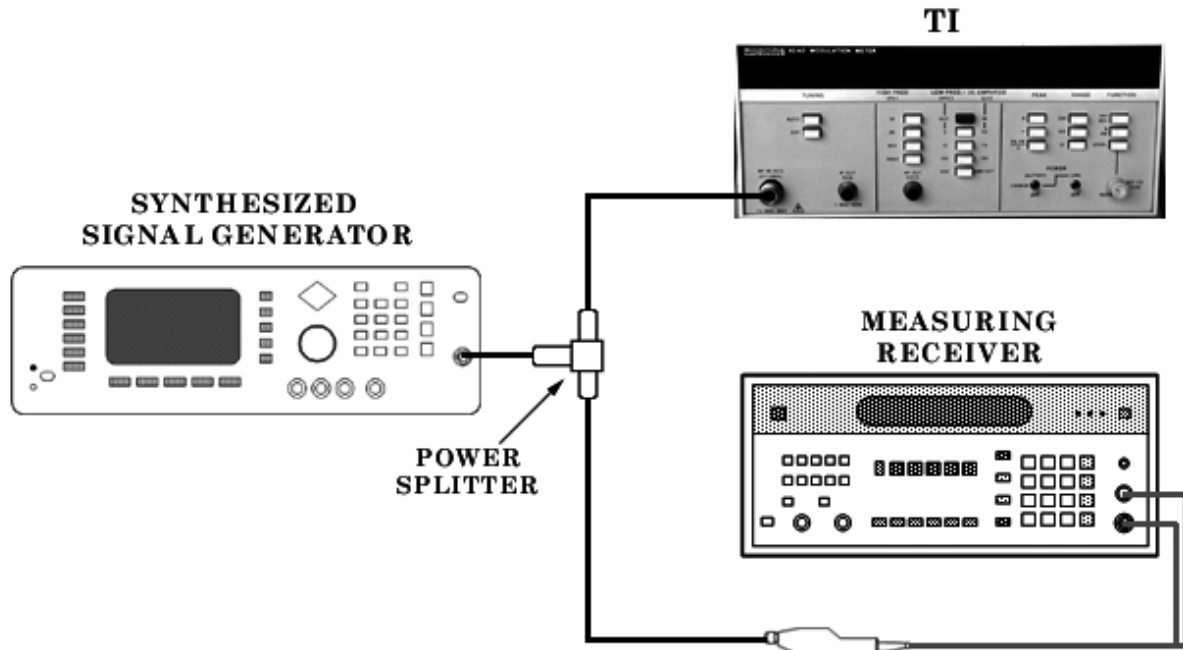

Figure 3. AM and FM accuracy – equipment setup.
- (1) Connect equipment as shown in figure 3.
- (2) Press TI pushbuttons as listed in (a) through (e) below:
(1) Connect equipment as shown in figure 3.
(2) Press TI pushbuttons as listed in (a) through (f) below:
- (16) Press **DE-EMPHASIS** (green pushbutton) and **50 μ s** pushbuttons. TI will indicate between 69.3 and 72.1 kHz.
- (17) Release **DE-EMPHASIS** and press **LOW-PASS (kHz) 15** pushbuttons.
- (18) Repeat (10) above for FM Rate of 2.122 kHz.
- (19) Press **DE-EMPHASIS** and **75 μ s** pushbuttons. TI will indicate between 69.3 and 72.1 kHz.
- (20) Repeat (17) above.
- (21) Repeat (10) above for FM Rate of 212.2 Hz.
- (22) Press **DE-EMPHASIS** and **750 μ s** pushbuttons. TI will indicate between 69.3 and 72.1 kHz.
- (23) Repeat (17) above.
- (24) Repeat (10) above for FM Rate of 1.0 kHz.
- (25) Press **DE-EMPHASIS** and **6 dB/OCT** pushbuttons. TI will indicate between 96.0 and 104.0 kHz.
- (26) Disable outputs and connect equipment as shown in figure 3.
- (27) Adjust measuring receiver controls as necessary to measure FM modulation with **PEAK+ DETECTOR**.
- (28) Release TI **DE-EMPHASIS** pushbutton and press pushbuttons as listed in (a) through (c) below:
- (29) Adjust synthesized signal generator FM Rate to 3.0 kHz and FM Deviation for a 16.5 kHz deviation indication on measuring receiver.
- (30) TI will indicate between 10.98 and 12.37 kHz.
- (31) Adjust synthesized signal generator FM Rate to 15.0 kHz and FM Deviation for a 36.0 kHz deviation indication on measuring receiver.
- (32) Press **LOW-PASS (kHz) 15** and **RANGE 100** pushbuttons. TI will indicate between 23.9 and 27.0 kHz.
- (33) Adjust synthesized signal generator FM Rate to 120.0 kHz and FM Deviation for a 290.0 kHz deviation indication on measuring receiver.